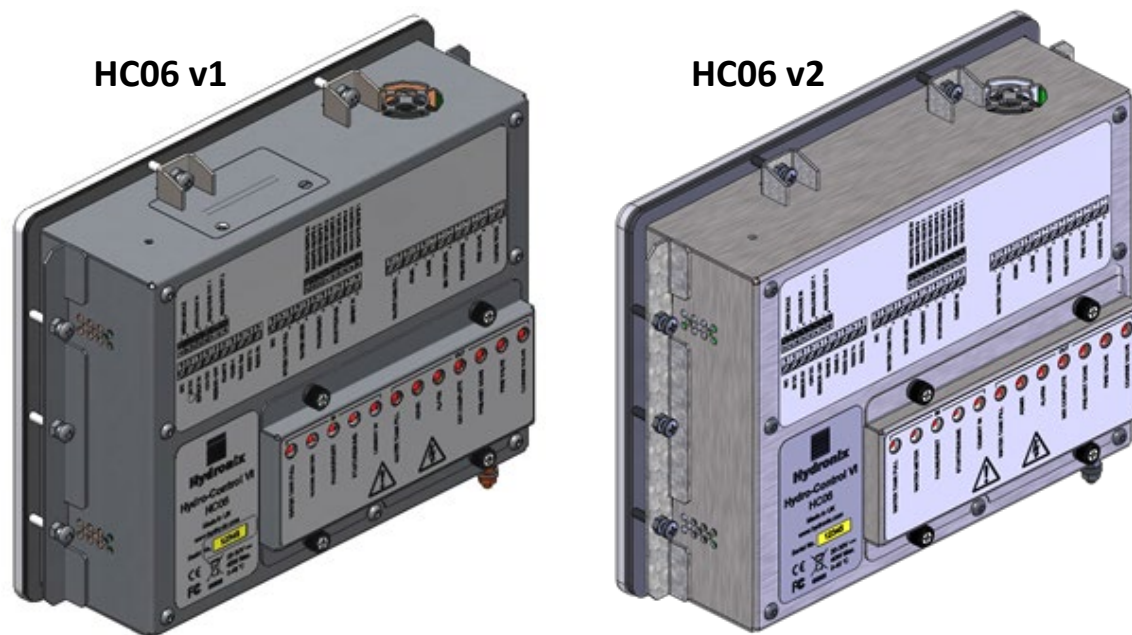

Figure 5: View of the Hydro-Control VI showing the mounting brackets
**Note: HC06 v2 utilises an internal SSD hard drive and does not contain removable memory cards (Figure 5). The SSD hard drive is not removable, therefore, no user maintenance is possible. Contact [support@hydronix.com](mailto:support@hydronix.com) for assistance in the event of a failure.**